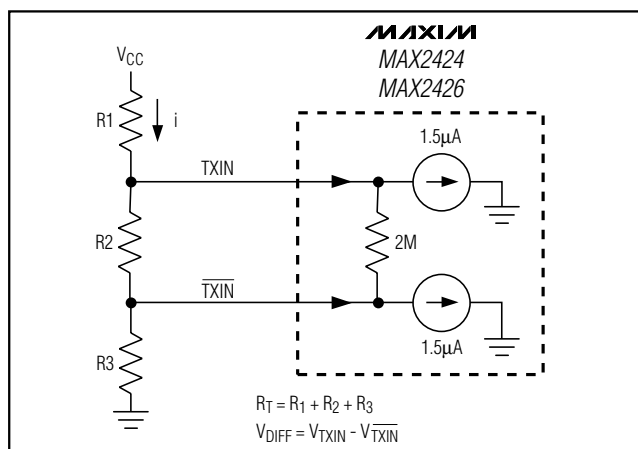

Figure 3. Biasing TXIN and TXIN for FM
Frequency modulation (FM) is realized by modulating the VCO tuning voltage. Apply the appropriate differential and common-mode voltages to TXIN and TXIN to control transmitter output power (Figure 3).